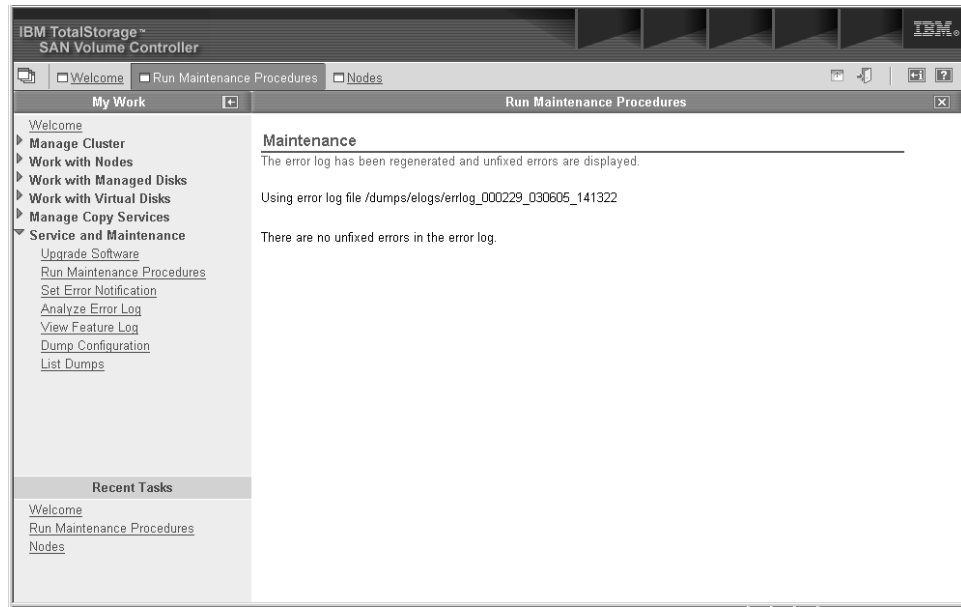

Figure 41. Example of what is displayed when you see no errors
7. Click Exit. If other errors need to be fixed, these errors are displayed now and the directed maintenance procedures will continue. If no errors remain, you will see what is displayed in Figure 41 on page 27